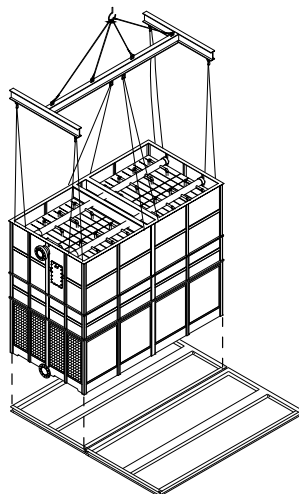
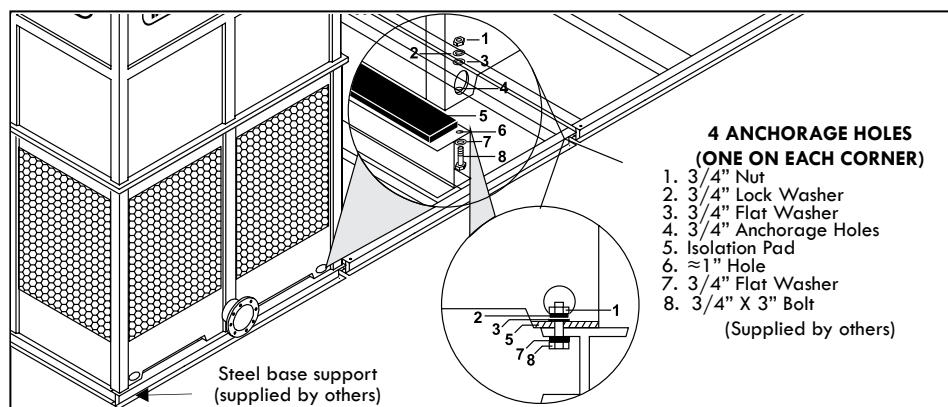
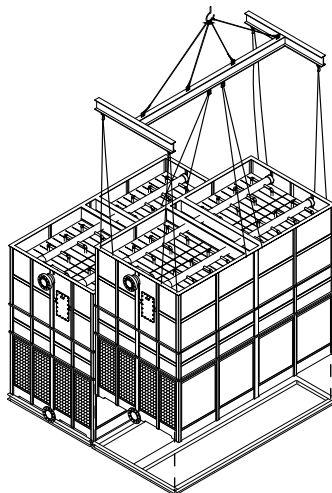

Figure A-114: Lift and install section M1A of the RTGMTC model.
Figure A-115: Typical anchorage for a modular tower (RTGMTC)
Figure A-116: Lift and install section M1B of RTGMTC model.
- O. Once the basin and body sections M1A have been assembled, lift the Tower using a crane and a spreader bar and place it on top of the isolation pad and the steel base structure (see Figure A-114). Secure it with the galvanized steel nut and bolts sets (supplied by others) as shown on Figure A-115.
- P. Repeat procedure from step I to N to assemble the the basin and body sections M1B. Once the basin and body sections M1B have been assembled, lift the Tower using a crane and a spreader bar and place it on top of the isolation pad and the steel base structure next to the basin and body sections M1A (see Figure A-116). Secure it with the galvanized steel nut and bolts sets (supplied by others) as shown on Figure A-115.